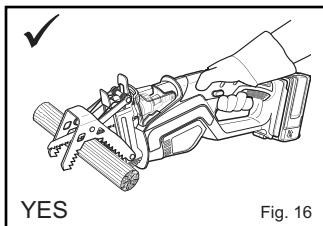

Fig. 16
- Hold the product with one hand only (Fig. 16).